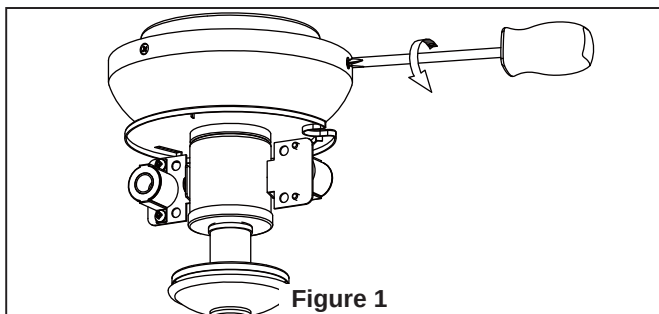

Figure 1
- ☐ **1. IMPORTANT:** Using a full range dimmer switch (not included) to control fan speed will damage the fan. To reduce the risk of fire or electrical shock, do not use a full range dimmer switch to control the fan speed. (Figure 1)